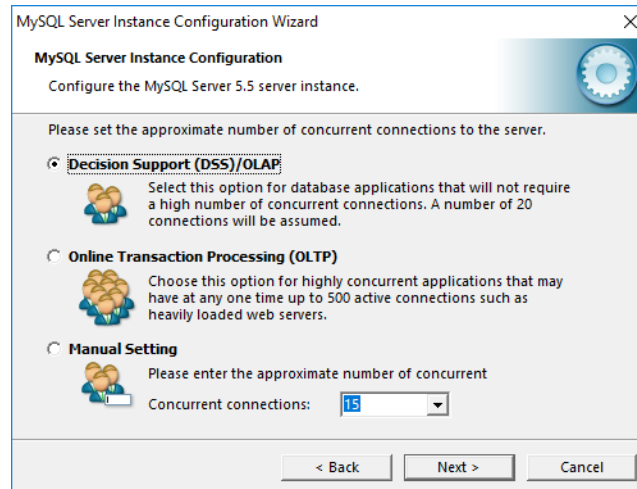

Figure A12
6. Leave "Decision Support (DSS)/OLAP" selected and click "Next". (Figure A12)